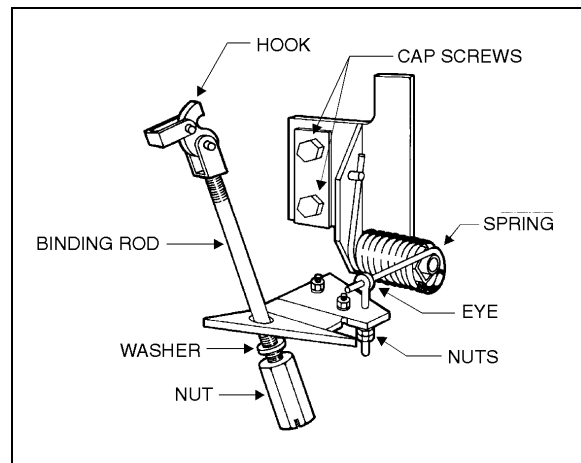

FIGURE 10: FRONT BUMPER
2. Hold bumper and push binding rods up to remove the 2 binding rod hooks from their respective attaching points. See figure 10.